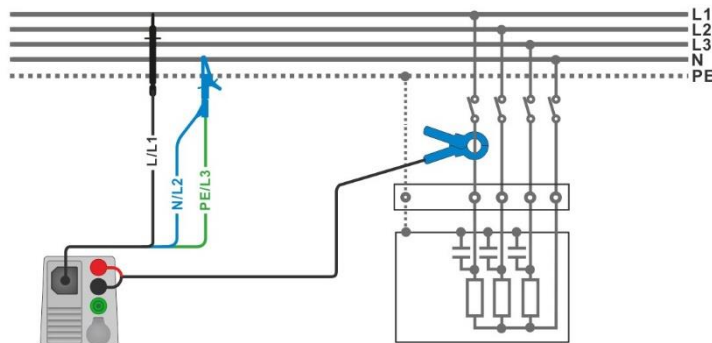

Figure 7.84: Harmonics measurement
- ▶ Connect 3-wire test lead and current clamp to the item to be tested, see **Figure 7.84**.